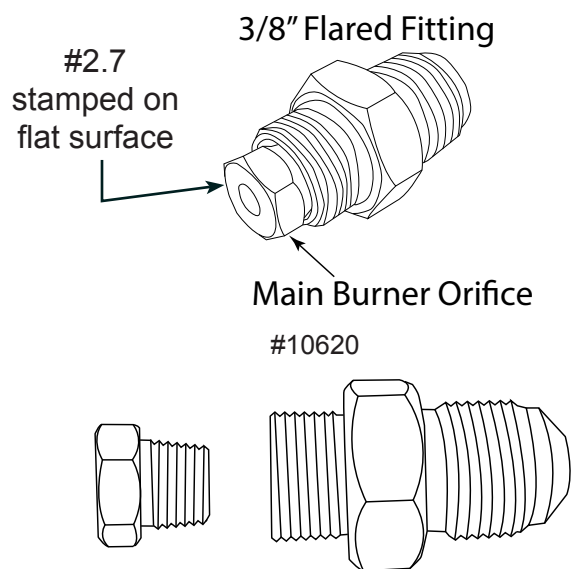

Fig. 1 Shows main burner orifice.
Step 4: Remove the $\frac{3}{8}$ " flex connector from the main burner orifice. See Fig. 1 for reference.